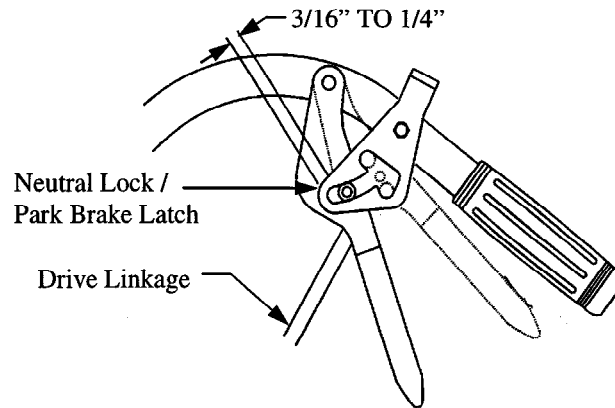

FIG. 9
- c) Adjust drive linkage length by threading into or out of the swivel until there is a 3/16" to 1/4" clearance between the linkage assembly and the bottom of the slot in the neutral lock lever. (See Figure 9).